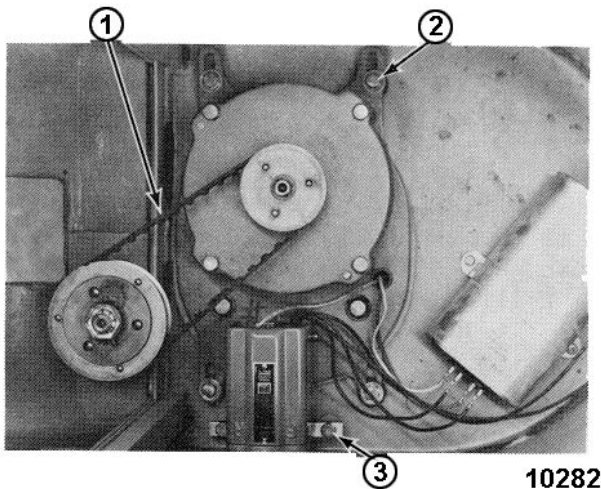

Fig. 153
NOTE: The Flexa-Gear belt on the power bowl lift must be adjusted so there is approximately ½" deflection at the midway point [1] Fig. 153 between the drive pulley and clutch assembly. If the Flexa-Gear belt is too tight, it may wear excessively and be noisy. If it is too loose, it may come off the pulley or slip.
4. Slide the PBL gear case away from the PBL switch until there is approximately ½" deflection of the Flexa-Gear belt midway between the clutch assembly and drive pulley [1] Fig. 153.